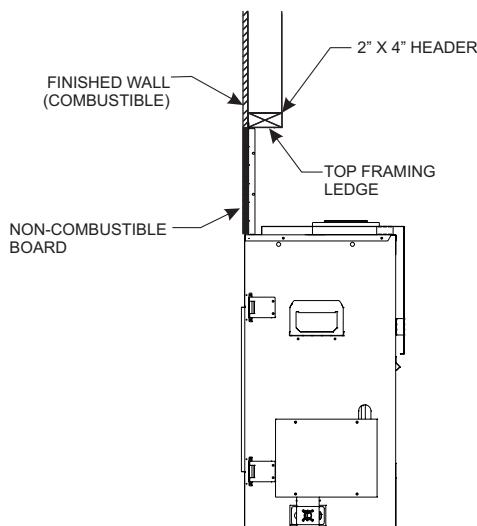

Figure 31
- **Figure 31** shows both finishing options.